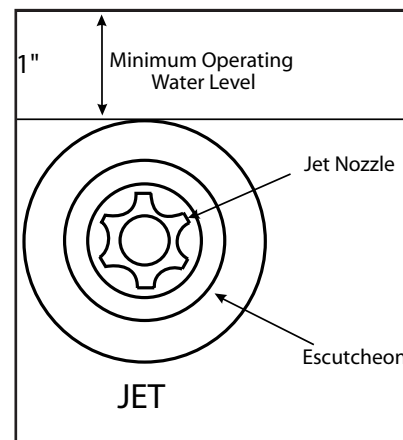
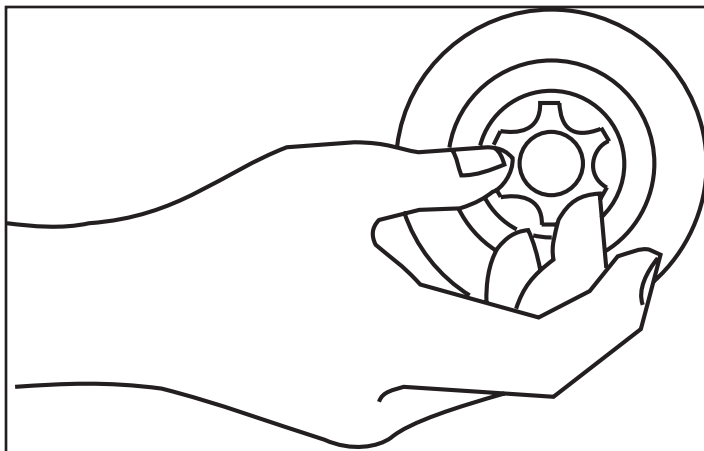

FIGURE 17
FIGURE 18
a. Fill bathing fixture to one inch (1") above highest jet escutcheon (See Figure 17) with hot
e. Refill bathing fixture to one inch (1") above highest jet escutcheon (*See Figure 17*) with cold water and run the whirlpool for 10 minutes to rinse piping.
8.4 Once the GFCI is operational, fill the bathing fixture to at least one inch (1") above the highest jet escutcheon (*See Figure 17*). Take care not to allow the water level to drop below the jet nozzle or splashing may occur. Use your hand to manually swivel the jet nozzles so they are angled down. (*See Figure 18*) Using the electric control, turn on the whirlpool pump and allow it to run for 10 minutes; check piping for leaks. Every Aqua Glass bathing fixture is factory tested for leaks, but in the event a leak is found during this testing, it must be corrected immediately by a qualified technical repairman. Aqua Glass is not responsible for any defect that could have been discovered, repaired, or avoided by following this inspection and testing procedure.
1. Push the jet orifice up/down or side-to-side to direct the water to the desired location. (See Figure 18)